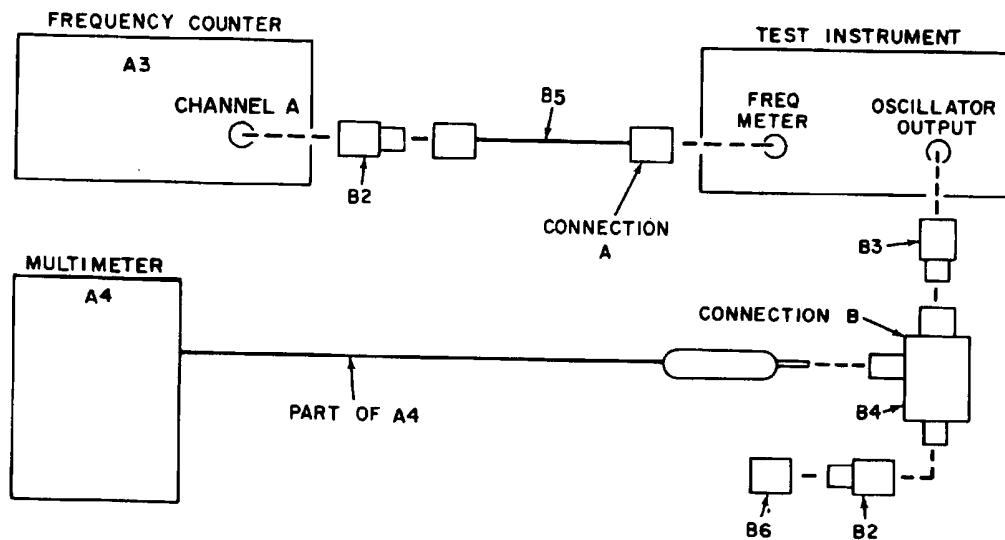

Figure 1. Oscillator frequency - equipment setup.
(1) Connect equipment as shown in figure 1, connection A. If frequency counter (A3) does not indicate between 99.500 and 100.500 MHz, perform **b** below.
(4) Connect equipment as shown in figure 1, connection B.
(5) Rotate **FREQUENCY MEGACYCLES** dial throughout frequency range. Multimeter (A4) will indicate at least 2 V at its maximum voltage indication.